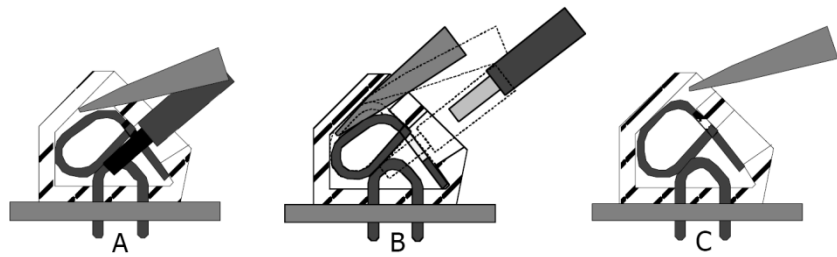

Figure 49. Removing connections in screwless spring-loaded terminals
- Place a size 1 screwdriver in the upper opening and insert it turning slightly upwards (figure 49 A).
- Then draw the wire from the lower opening (figure 49 B).
- Withdraw the screwdriver (figure 49 C).